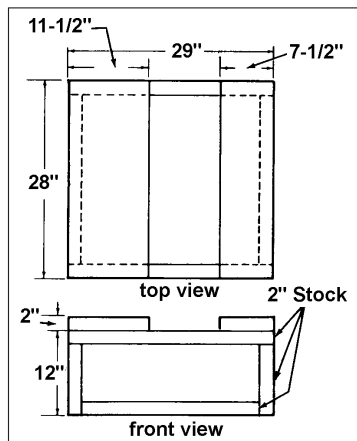

Figure 3A – Wood box
- Wood box (Figure 3A) for supporting inner unit.